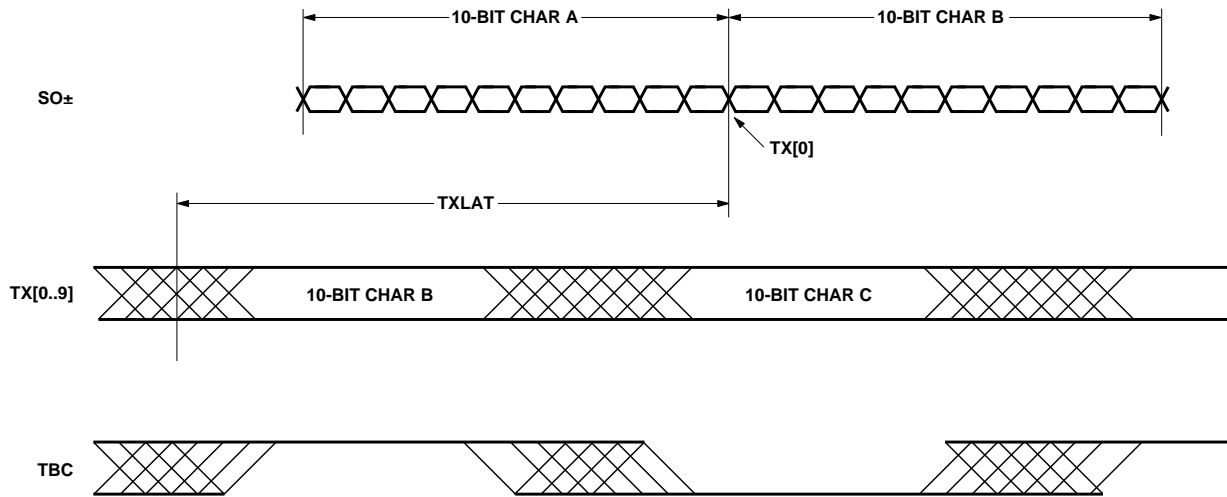

Figure 4. Transmitter latency. TX[0] is first bit on  $SO_{\pm}$ .
1. The transmitter latency, as shown in Figure 4, is defined as the time between the leading edge of a parallel data word and the leading edge of the first transmitted serial output bit of that data word.